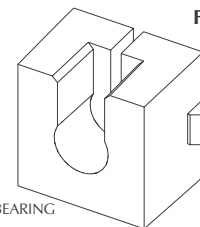
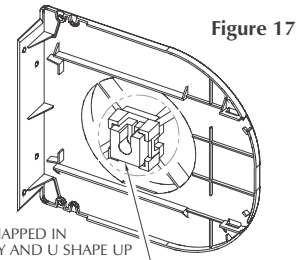

Figure 16
Figure 17
14. Retrieve the Bearing which was removed from the bypass side panel at the beginning of the installation (Fig. 16) and install it into the center of the bypass side panel. (Fig. 17) If replacing or repairing a bearing insert a slotted